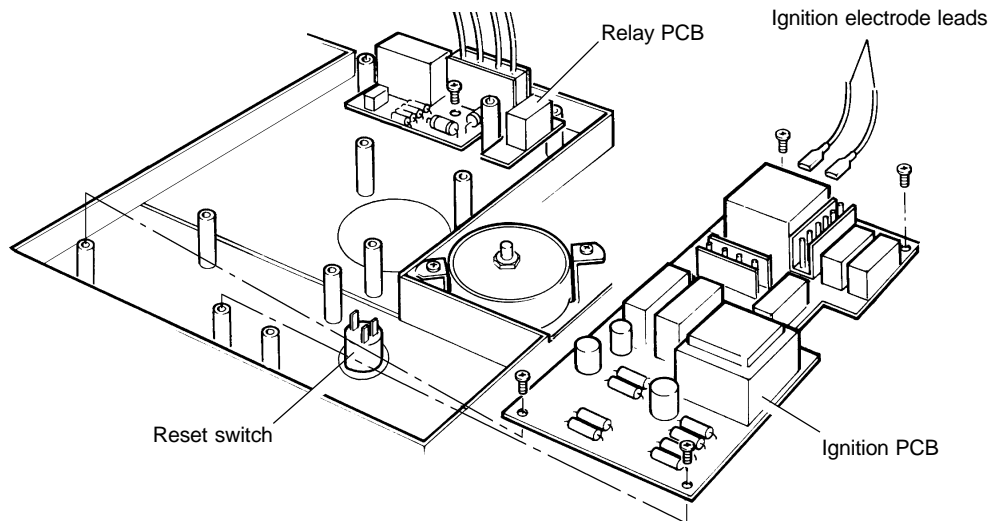

Fig. 27 - Alpha 240XE
8.18 IGNITION PCB (Alpha 240XE only) - Refer to Fig. 27
8.19 RELAY PCB - Refer to Fig. 27 or 28
8.20 RESET SWITCH (Alpha 240XE only) - Refer to Fig. 27